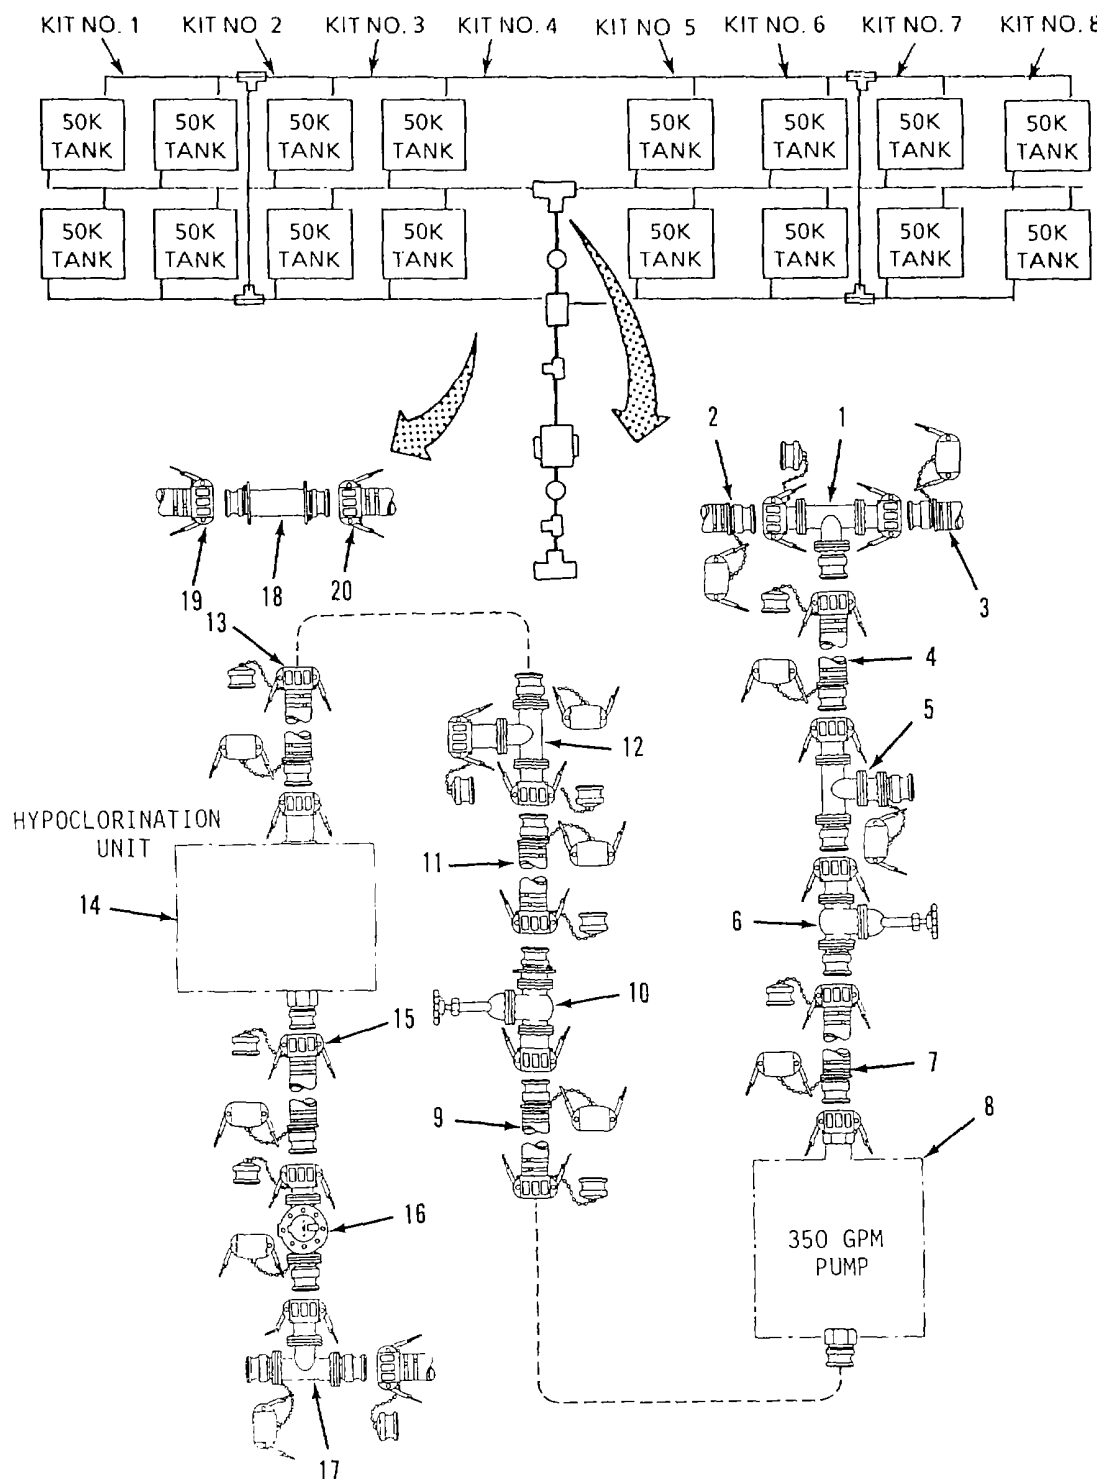

Figure 2-17. 350 Gpm Pump Connection Kit Assembly (Distribution Point).
- j. Assemble 350 Gpm Pump Connection Kit (Distribution Point). Refer to figure 2-17.